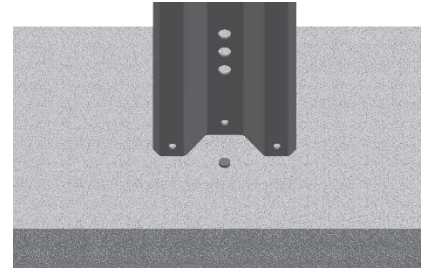

Figure 1: Remove footpad from bin leg
1. Completely remove the foot pad from the bottom of the bin leg. (**Figure 1**)